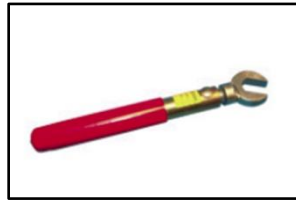

Figure 33: Torque Wrench for N-Type Connector
- Step 1: Tighten the connection with a torque wrench to the proper torque value (12-15lbs for an N-type connector) to ensure that correct internal seals and surface contacts are made. One recommended torque wrench for an N-Type connector is the Andre 244379 and is shown in Figure 33.